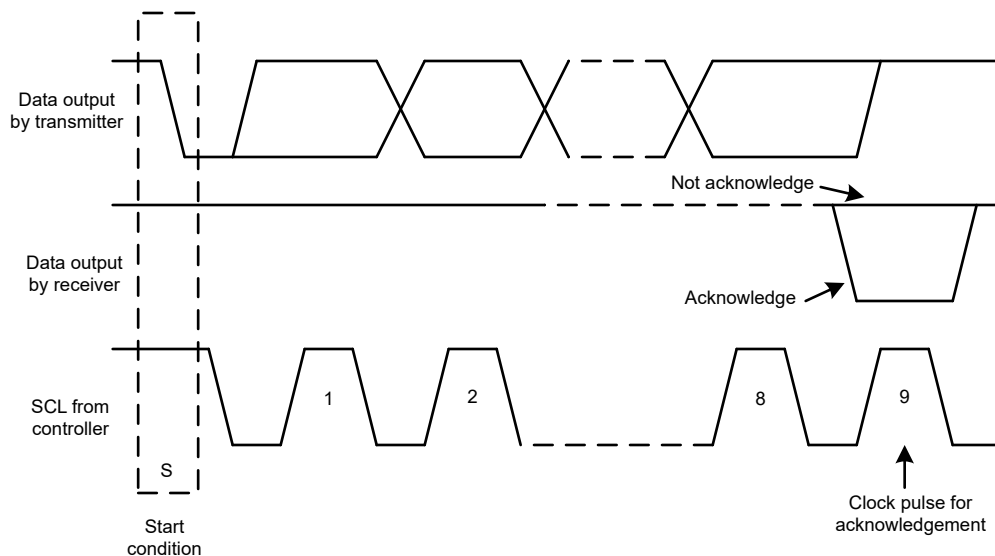
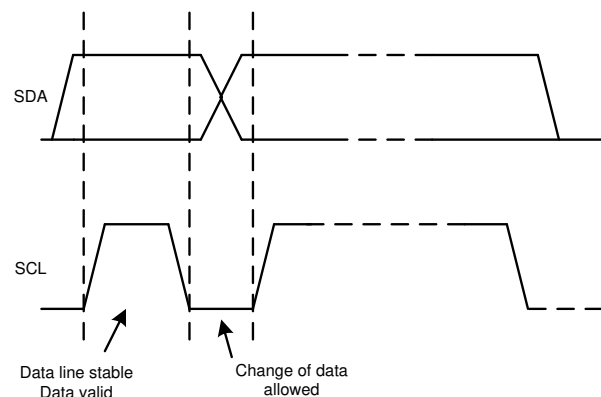

Figure 6-18. Acknowledge and Not Acknowledge on the I²C Bus
Figure 6-20. Bit Transfer on the I²C Bus
Other than specific timing signals, the I²C interface works with serial bytes. At the end of each byte, a ninth clock cycle generates and detects an acknowledge signal. An acknowledge is when the SDA line is pulled low during the high period of the ninth clock cycle. Figure 6-18 depicts a not-acknowledge, when the SDA line is left high during the high period of the ninth clock cycle.
2. The controller then generates the SCL pulses, and transmits the 7-bit address and the read/write direction bit (R/\overline{W}) on the SDA line. During all transmissions, the controller makes sure that data are valid. Figure 6-20 shows that a valid data condition requires the SDA line to be stable during the entire high period of the clock pulse. All devices recognize the address sent by the controller and compare the address to the respective internal fixed address. Only the target device with a matching address generates an acknowledge by pulling the SDA line low during the entire high period of the 9th SCL cycle (see also Figure 6-18). When the controller detects this acknowledge, the communication link with a target has been established.